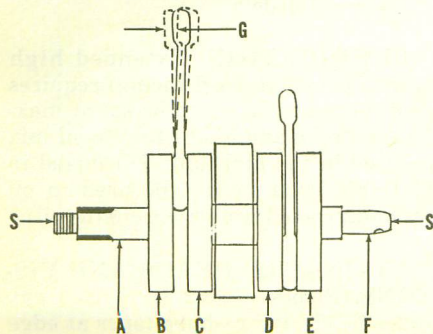

Fig. Y4-15—Refer to text for checking crankshaft assembly and wear limits.
CONNECTING RODS AND CRANKSHAFT. The crankcase halves must be separated to remove the crankshaft. Connecting rods, crankpins, rod bearings and the center main bearings are removed by pressing the crankshaft apart. The crankshaft should be disassembled ONLY if required tools are available to correctly check and align the reassembled crankshaft. If side shake (G—Fig. Y4-15) at piston pin end of connecting rod exceeds 2MM (0.08 in.), the connecting rod, crankpin and lower bearing should be renewed. Shake (G) should be 0.8-1.0MM (0.032-0.039 in.). Side clearance of connecting rod between the crankshaft counter weights can be measured with a feeler gage. Side clearance should be 0.1-0.3MM
(0.0039-0.012 in.). With crankshaft supported between lathe centers (S—Fig. Y4-15), maximum eccentricity when measured with dial indicator at points (A, B, C, D, E, & F) should not exceed 0.0008 inch.
Distance from outer surface of crank-wheel (B—Fig. Y4-15) to outer surface of crankwheel (E) should be 139.8-140.0MM (5.504-5.512 in.). Distance